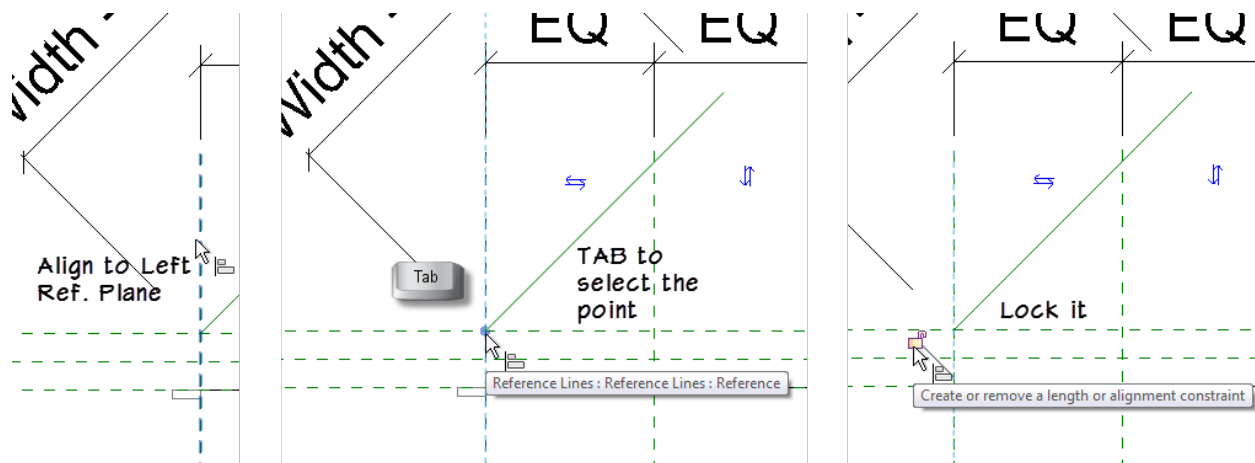

Figure 19—Align Reference Lines to lock them to the Ref Planes
4. Use the Align tool and the TAB key technique to align and lock the end of the Reference Line to the Ref Plane: Left (see Figure 19).